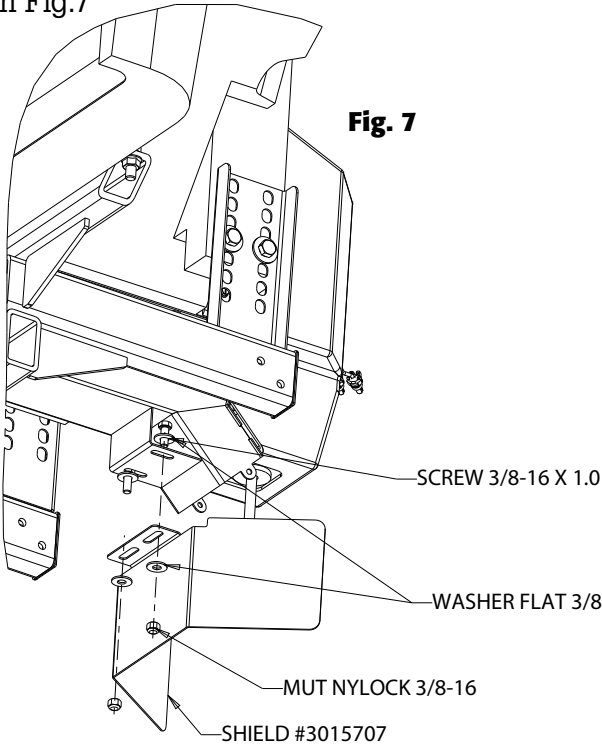

Fig. 7
7. Attach shield #3015707 to trough bracket as shown in Fig.7